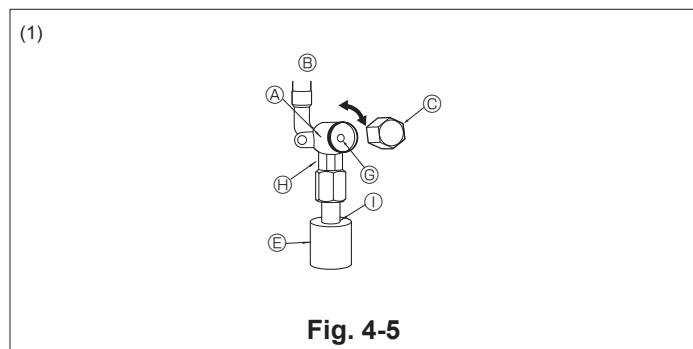
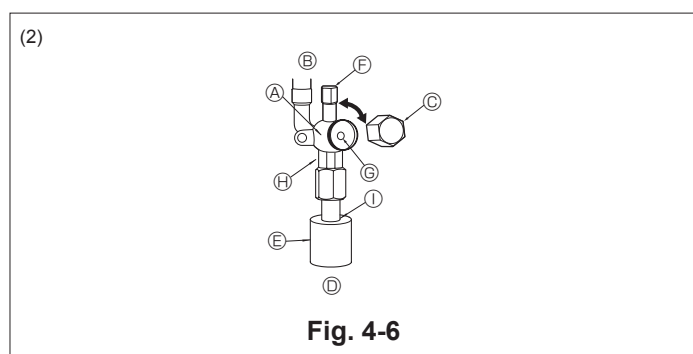

Fig. 4-5
Fig. 4-6
(1) Gas side (Fig. 4-5)
- ① Remove the cap and turn the valve rod counterclockwise as far as it will go with the use of a 4 mm hexagonal wrench. Stop turning when it hits the stopper. (ø15.88, 5/8 inch: Approximately 11 revolutions)
- ② Make sure that the stop valve is open completely and rotate the cap back to its original position.
(2) Liquid side (Fig. 4-6)
- ① Remove the cap and turn the valve rod counterclockwise as far as it will go with the use of a 4 mm hexagonal wrench. Stop turning when it hits the stopper. (ø6.35, 1/4 inch: Approximately 4.5 revolutions) (ø9.52, 3/8 inch: Approximately 10 revolutions)